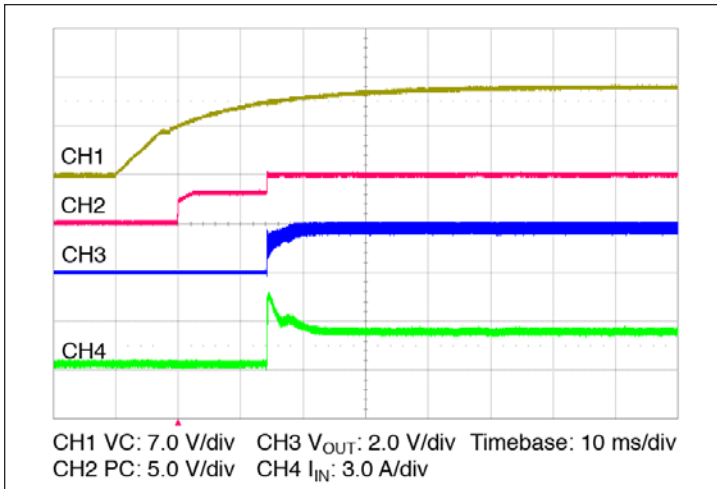

Figure 11 – Start up from application of VC; V_{IN} pre-applied
- Stand-alone operation (VC applied after V_{IN}): In this case the VTM output will begin to rise upon the application of the VC voltage (See Figure 11). The Adaptive Soft Start Circuit (See Section 11) may vary the output rate of rise in order to limit the inrush current to its maximum level. When starting into high capacitance, or a short, the output current will be limited for a maximum of 120 μ /sec. After this period, the Adaptive Soft Start Circuit will time out and the VTM module may shut down. No restart will be attempted until VC is re-applied or PC is toggled. The maximum output capacitance is limited to 27000 μ F in this mode of operation to ensure a successful start.